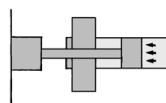

Fig. 1  $\eta = 0.7$  or more
- 1) Using the cylinder for stationary operation: load ratio  $\eta = 0.7$  (Fig. 1)